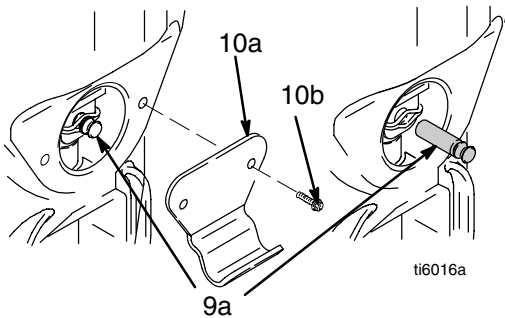

Fig. 11
1. Flush pump (13).
3. Fig. 11. Remove two screws (10b) and cover (10a).
2. Fig. 11. Install pump pin (9a). Verify retainer spring is in groove of pump pin.
8. Fig. 11. Install cover (10a); with screws (10b).